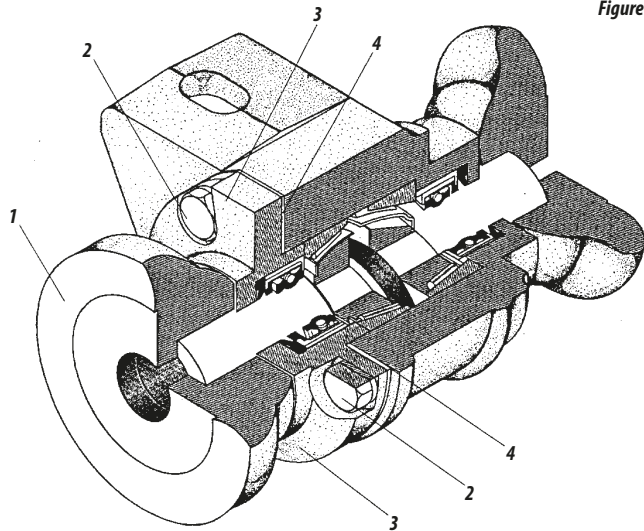

Figure 22
- 01 - Take the washer out item 1 figure 22.
- 02 - Release the bolts item 2 and take the lid item 3 out.
- 03 - Take the joints 1 or 2 item 4, out of the lid bearing. Put it again and tighten it.
- 04 - If the looseness is still, turn the lid item 3, to increase the adjustment after assemble the lid on the bearing with as many joints as it is necessary.